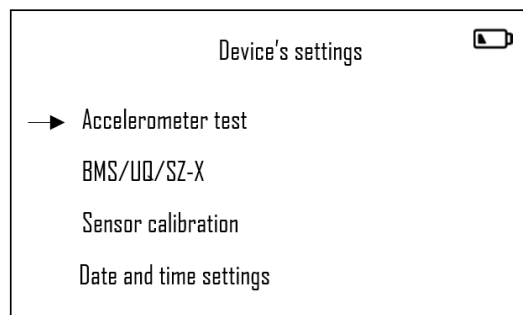

Fig. 20 – Device's settings
- Then by use ↓ and ↑ arrows choose „Accelerometer test” Fig.20) and confirm by press ENTER,